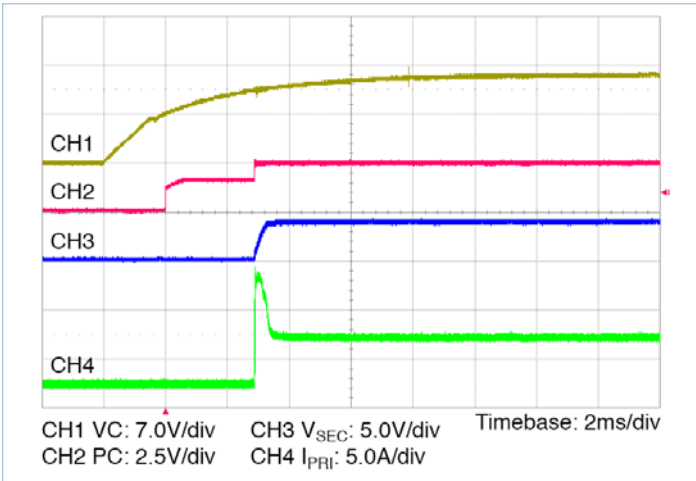

Figure 14 — Start up from application of VC; V_{PRI} pre-applied $C_{SEC} = 1000\mu\text{F}$
- **Stand-alone operation (VC applied after V_{PRI}):** In this case the VTM secondary will begin to rise upon the application of the VC voltage (See Figure 14). The Adaptive Soft-Start Circuit may vary the secondary voltage rate of rise in order to limit the inrush current to its maximum level. When starting into high capacitance or a short, the secondary current will be limited for a maximum of 1200 μ s. After this period, the Adaptive Soft-Start Circuit will time out and the VTM module may shut down. No restart will be attempted until VC is re-applied or PC is toggled. The maximum secondary capacitance is limited to 1000 μ F in this mode of operation to ensure a successful start.